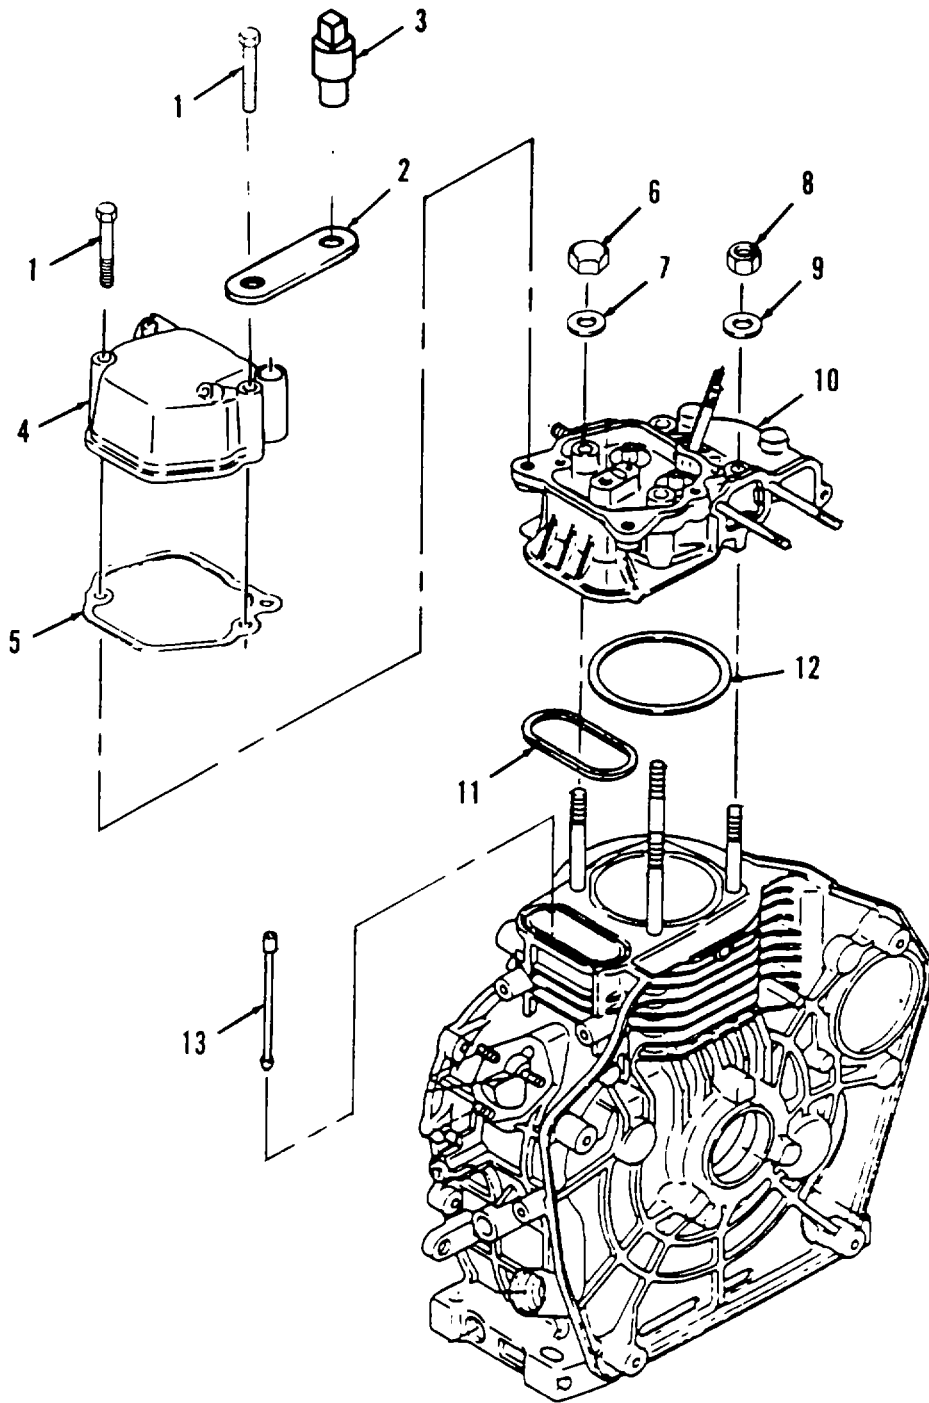
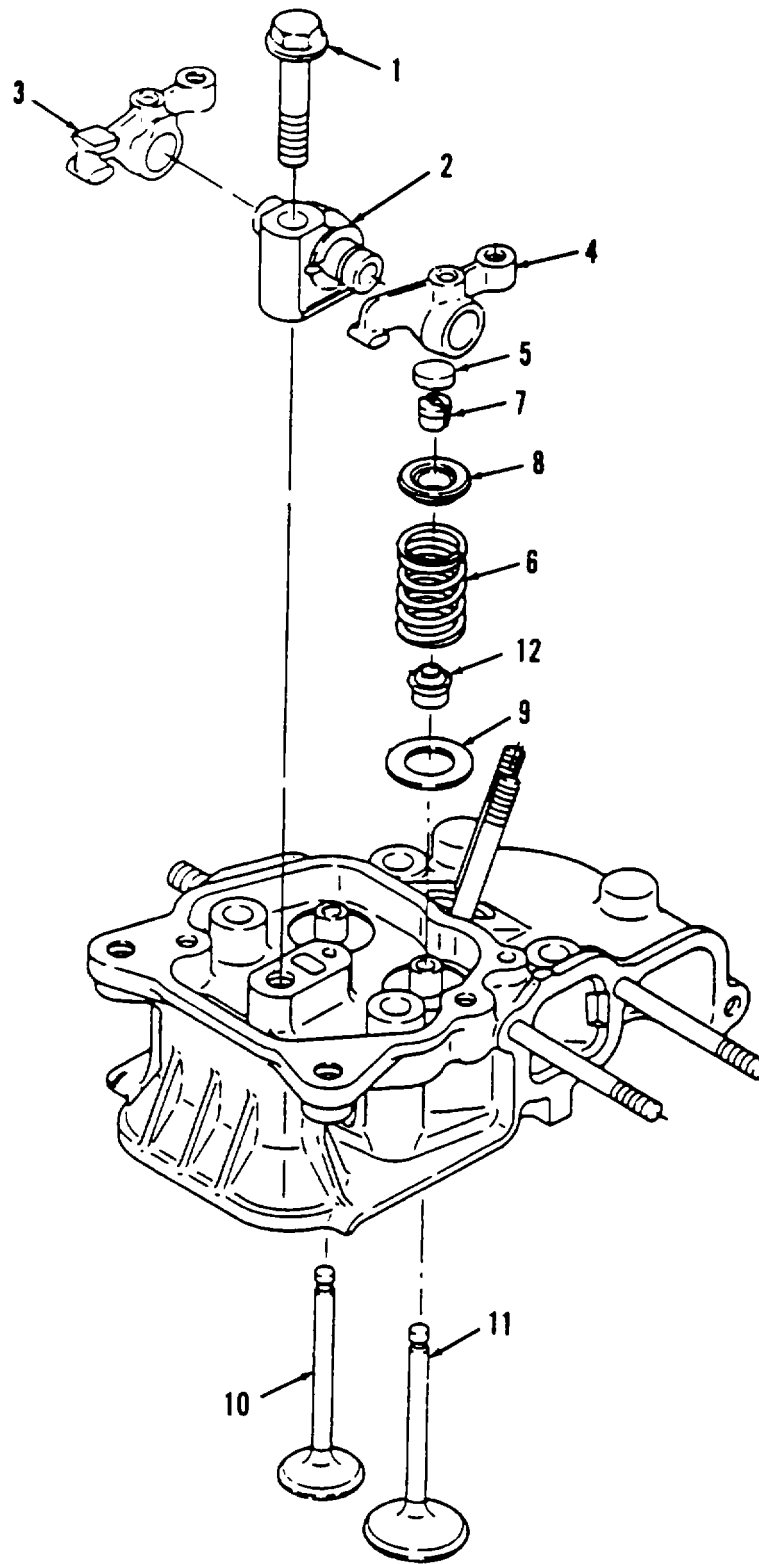
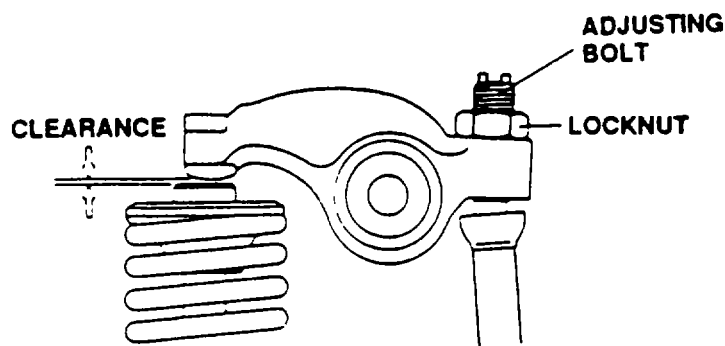

Figure 5-5. Cylinder Head Removal.
Figure 5-6. Cylinder Head Disassembly.
Figure 5-10. Adjusting Valve Clearance
a. Removal (Refer to Figure 5-5).
- (1) Remove two screws (1), strap (2), rubber plug (3), cylinder head cover (4), and gasket (5).
- (2) Remove two cap nuts (6) and washers (7) from cylinder head studs.
- (3) Remove two cylinder head nuts (8) and cylinder head washers (9) from cylinder head studs.
- (4) Remove cylinder head assembly (10) by lifting straight up off the four cylinder head studs.
- (5) Remove and discard push rod O-ring (11) and cylinder head gasket (12).
- (7) Refer to Figure 5-6. Remove rocker arm support bolt (1).
- (8) Remove rocker arm support (2) with intake and exhaust valve rocker arms (3 and 4) attached.
- (9) Remove two valve stem caps (5).
- (11) Compress valve spring (6), and remove retainer keeper (7) and retainer (8) from top of valve spring (6).
- (12) Remove valve spring (6).
- (13) Remove valve spring washer (9).
- (14) Remove valves (10 and 11) from cylinder head.
- (15) Remove valve stem seals (12) from cylinder head and discard.
- (1) Replace any components that do not meet inspection criteria.
- (2) Remove slight scratches or scuff marks with crocus cloth.
d. Installation. (Refer to Figure 5-6).
- (1) Insert two new valve stem seals (12) onto valve guide.
- (2) Insert valves (10 and 11) into cylinder head.
- (3) Install valve spring washer (9).
- (4) Install valve springs (6).
- (5) Compress valve spring (6) and install retainer (8) and retainer keeper (7).
- (6) Install two valve caps (5).
- (7) Refer to Figure 5-5. Place new cylinder head gasket (12) and push rod O-ring (11) onto cylinder block.
- (8) Install cylinder head (10) onto four studs protruding from cylinder block.
- (9) Note tag on push rods (13) and position push rods into cylinder block in the cam followers.
- (10) Secure cylinder head (10) to cylinder block using two nuts (8), two washers (9), two nuts (6), and two washers (7).
- (11) Tighten nuts using torque wrench to 20-23 ft-lb (280-320 kg-cm).
- (12) Refer to Figure 5-6. Install valve stem caps (5).
- (13) Install rocker arm support (2) with intake valve rocker arm (3) and exhaust valve rocker arm (4) attached.